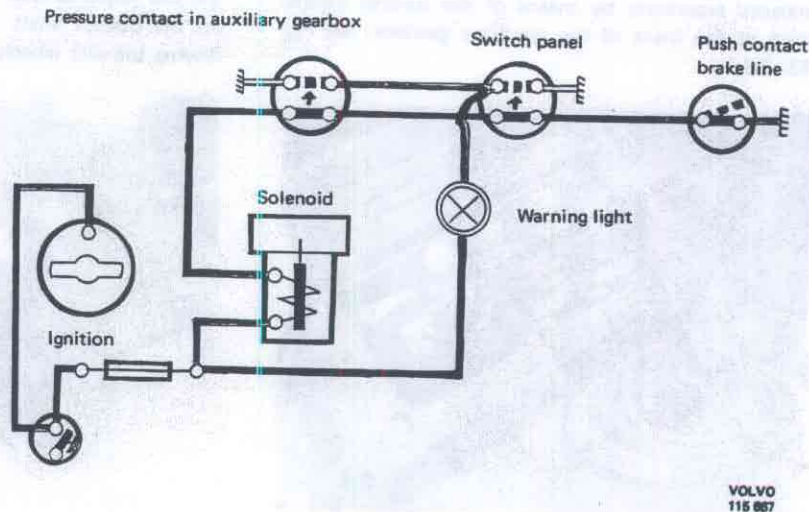

Fig. 43-19. Wiring diagram, front wheel drive
As the above shows, disengaging and engaging of the front wheel drive is governed by the fact whether the solenoid valve is in current or not. Fig. 43-19 shows the wiring diagram and the various possibilities for operating the front wheel drive.
- A. Ignition. With the ignition key in neutral, the current circuit is broken and front wheel drive is thus engaged. Turning the key disengages the front wheel drive providing that there is vacuum in the frame tanks and the contacts and switch are in the position shown by Fig. 43-19.